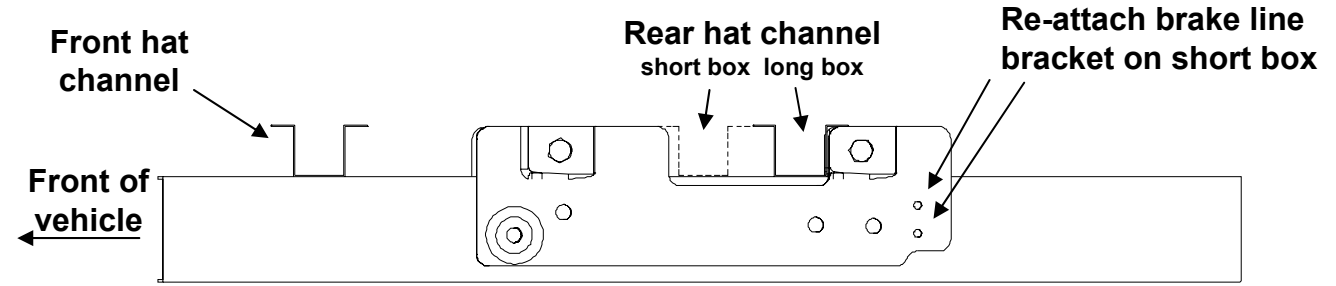

Figure 16
10. The brake line bracket can now be re-attached through the frame and bracket on the short box. (**Figure 16**)